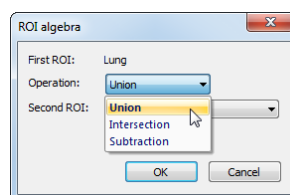

Figure 226 – ROI algebra dialog, defining the algebra operation
3. Select the algebraic operation in the **Operation** combo box (see Figure 226).